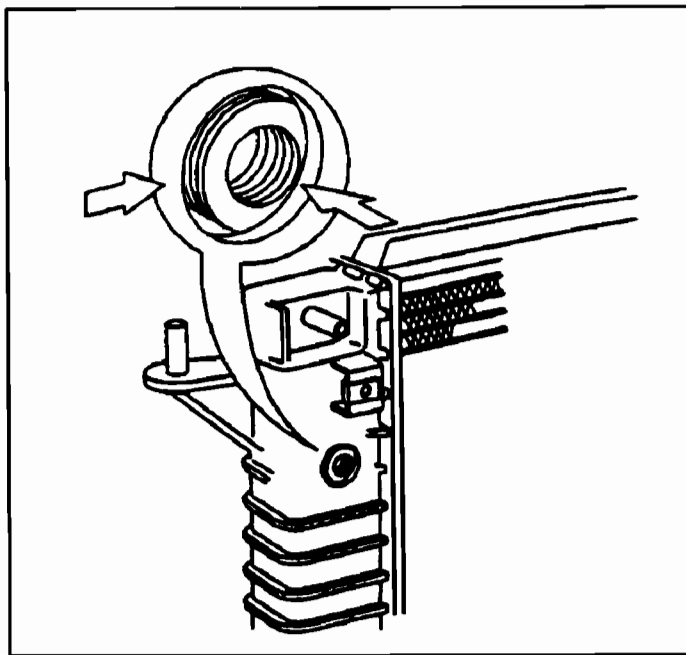

Figure 3
- (4) Push down on the transmission oil cooler and slide to the side under the lip of the end tank, as shown in Figure 3.